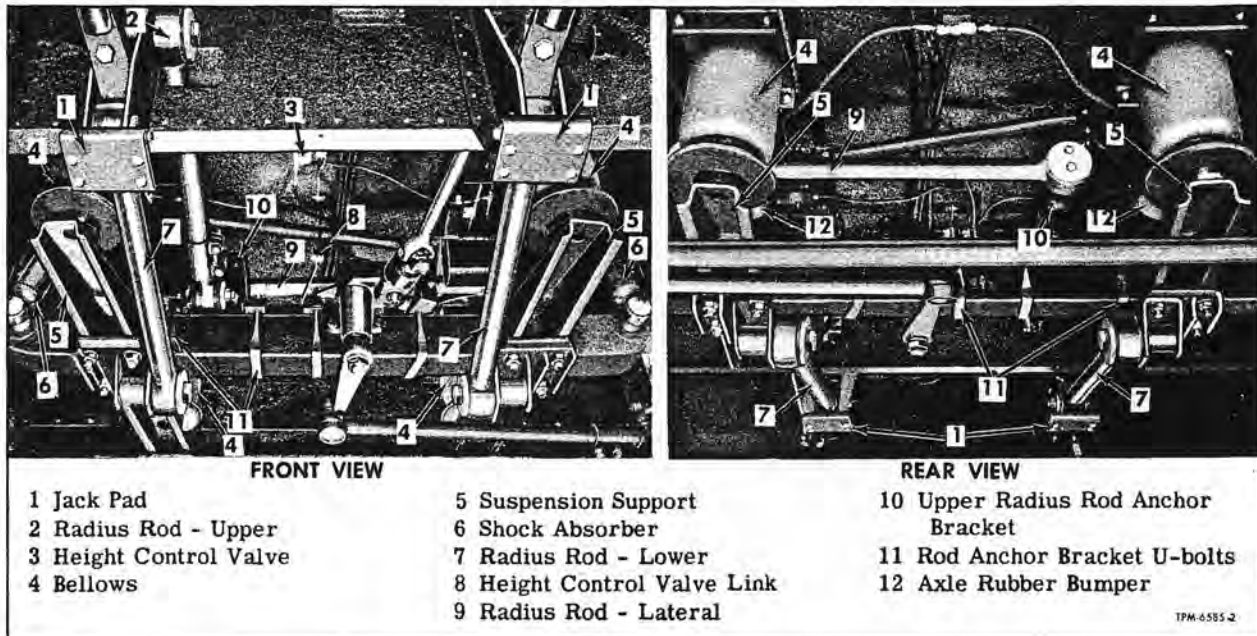

Figure 6—Front Axle and Air Suspension Installed
1. Do not attempt to work under vehicle without first blocking body or placing vehicle over a pit. With air bellows deflated, there is not sufficient clearance under vehicle for a man on a creeper. When blocking body, place blocks under jack pads provided at front and at rear lower radius rod brackets. Jack pads are shown in figure 6.
The procedures which follow cover removal of front axle assembly and suspension components. Procedures also cover removal of suspension components from axle assembly. Method used to support axle and suspension units during removal and disassembly depends upon local conditions and available equipment. Front axle and air suspension components installed are shown in figure 6.
**NOTE:** Key numbers in text refer to figure 6.
2. Raise front end of vehicle with jacks until bottom of body is approximately 18" from floor. Block body in raised position. Place each block directly under jack pads (1) provided at lower radius rod front anchor brackets.